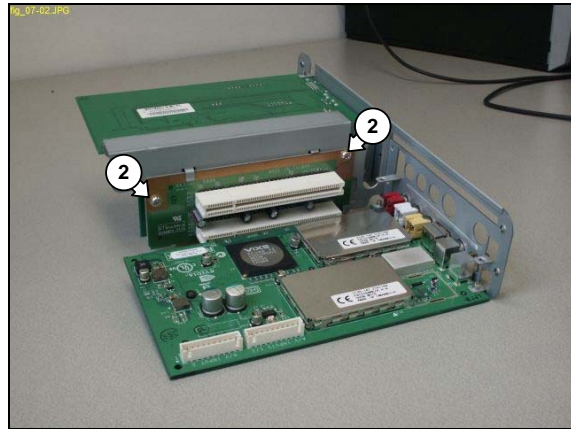

Figure 12.7-2
4. Remove the 2 mounting screws (2) from the PCI riser card. See Figure 12.7-2.